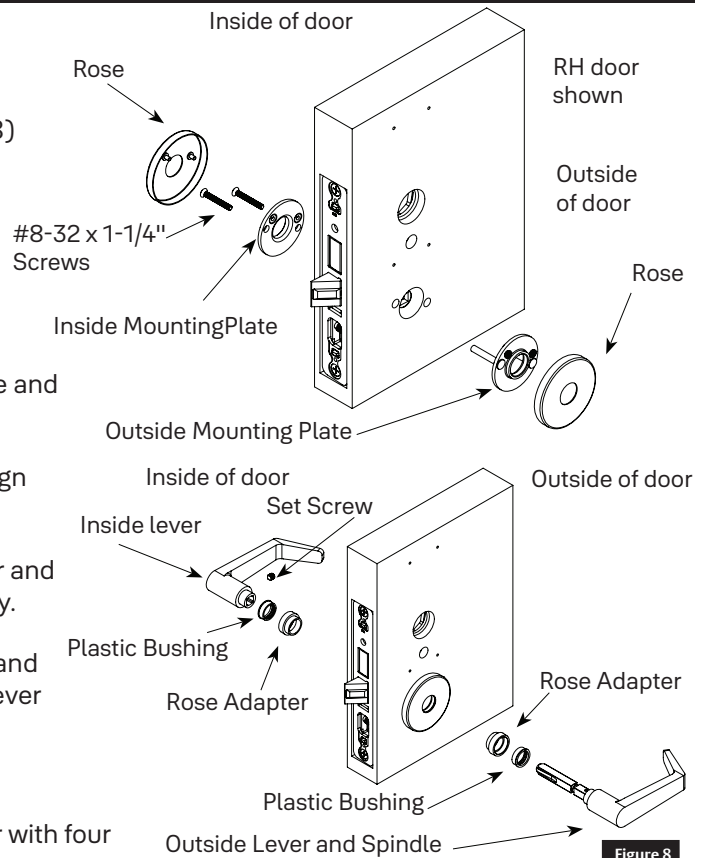

Figure 8
1. Insert outside mounting plate through door and lock body, and hold. (Figure 8)
2. Align and fasten inside mounting plate securely with two (2) #8-32 x 1-1/4" screws.